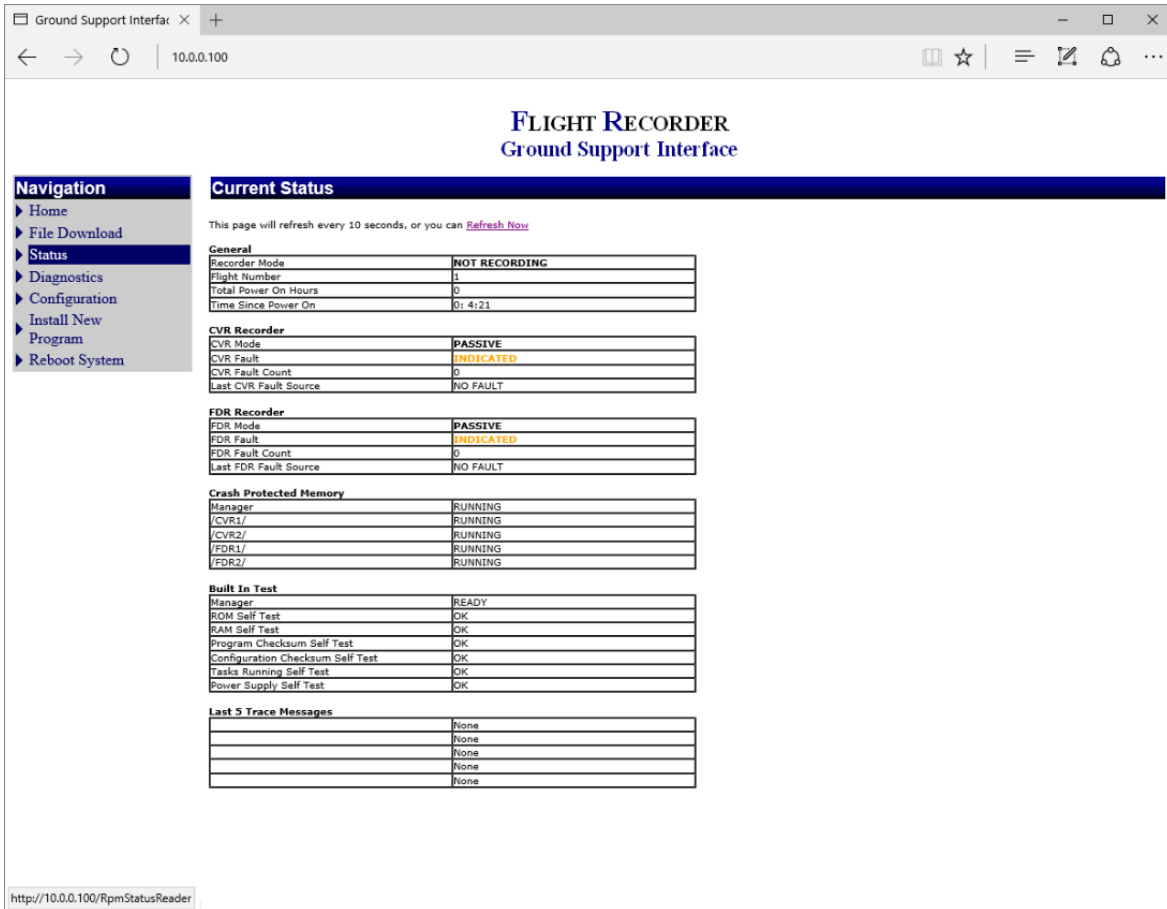

Figure 20 DIMPFR GSI Status Page
- (3) Allow one minute for DIMPFR operation to stabilise and then verify that the current reading on the DMM is in the range 250mA to 350mA.
- (4) Open Internet Explorer on the PC using the icon on the desktop.
- (5) Navigate to <http://10.0.0.100>.
- (6) When the DIMPFR GSI Home Page is displayed, select the **Status** option from the **Navigation** menu on the left. The Status page will now be displayed. An example of the Status page is shown in *Figure 20*.
- (7) Verify that the 'Recorder Mode' parameter in the 'General' status group reads 'NOT RECORDING'.
- (8) Verify that both the 'CVR Recorder' and 'FDR Recorder' groups show the following:
The built-in test manager will indicate a status of 'READY' following boot-up with the equipment in 'NOT RECORDING' mode, as shown in *Figure 20*. This indicates that the tests have not yet been carried out.